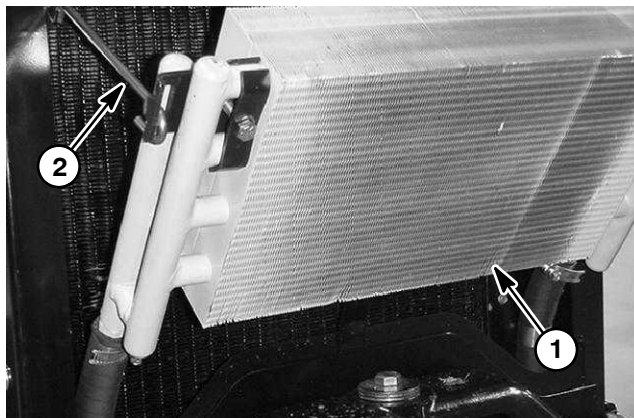

Figure 34
2. Remove oil cooler using Figures 34 and 35 as guides.
1. Install oil cooler using Figures 34 and 35 as guides.